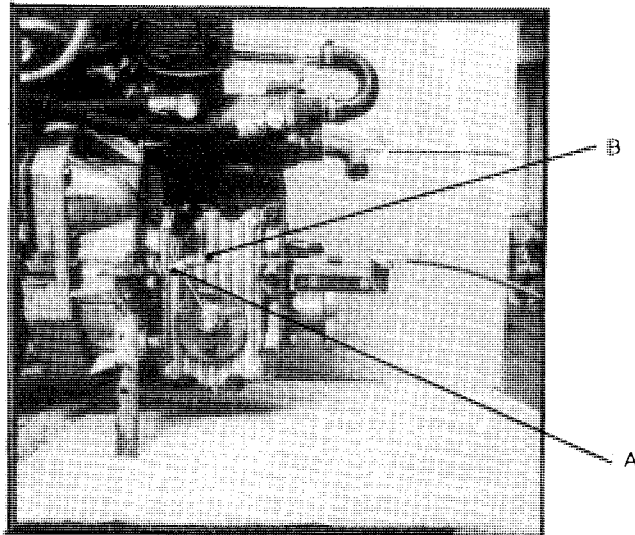

fig. 9
Next, match up the holes in the ball joint (A) and the lever (B) (fig. 9).